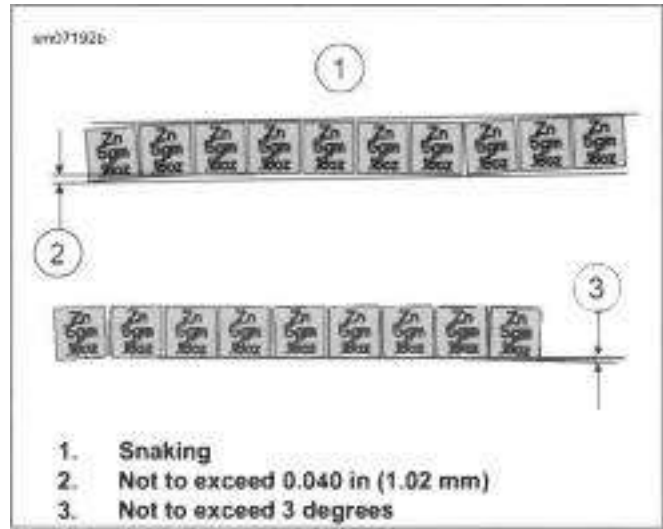

Figure 3-30. Weight Segment Alignment
See Figure 3-30. When installing wheel weights, consider cosmetics. Snaking (1) is not to exceed 0.040 in (1.02 mm) (2) of straight. The angle alignment of individual segments is not to exceed three degrees (3).